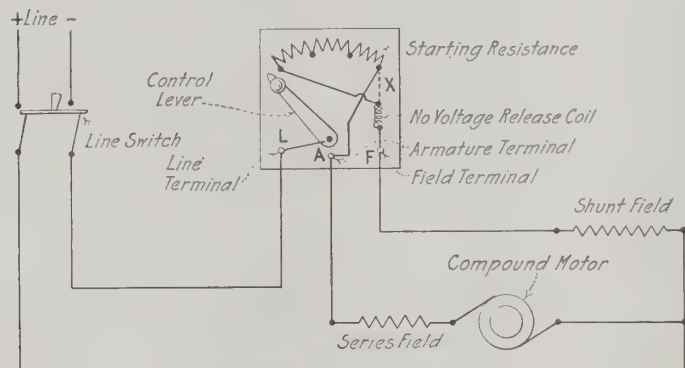

FIG. 1—CONTROL FOR COMPOUND WOUND MOTOR
*H. D. Hopkins.*—The diagram in Fig. 1 is correct either with or without the dotted connection X, as the starting resistances are small in comparison with the shunt resistance. In actual starting rheostats, the shunt field is connected through the no-voltage release to both ends of the starting resistances so that they are cut out when the handle is in the running position. This gives the full field current in the first position and prevents any unnecessary heating or possible damage when the handle is in the running position.
*A. L. Gear.*—The solid line connection as in Fig. 1, from the last button or contact point upon the starting rheostat is possible. All Cutler-Hammer starting rheostats now have a special contact button about midway between the hinge post upon which the sliding arm turns and the last armature resistance button. There is also a special spring contact midway of the sliding arm to press upon this button when the sliding arm is in motor full-speed position. The solid line connections from the first armature resistance button to the no-voltage release coil is very desirable. It prevents starting the motor upon a partially weakened field.
*R. H. Willard.*—The solid line connection shown in Fig 1, is correct. Changing the no-voltage release connection as indicated by dotted line X, would not be advisable. If this were done the connections would give relative values as in Fig. 2. As the figures show, the drop in the starting resistance is quite a large proportion of the line voltage at starting. This leaves the shunt field connected across a low voltage.